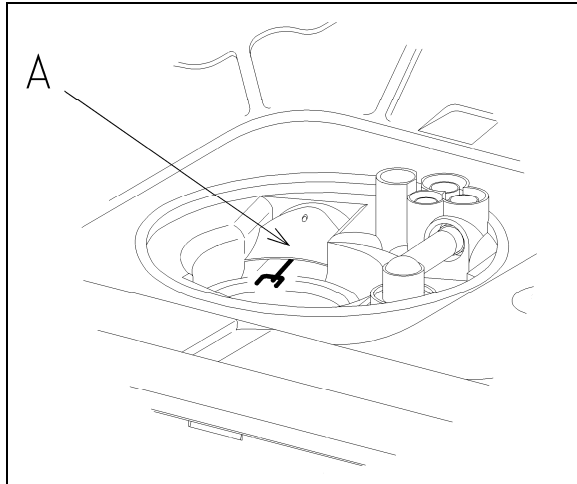

Figure 5-30: Engaging the Prongs in the Circulation Pump Impeller
4. Ensure that the prongs engage in the circulation pump impeller. See Figure 5-30.